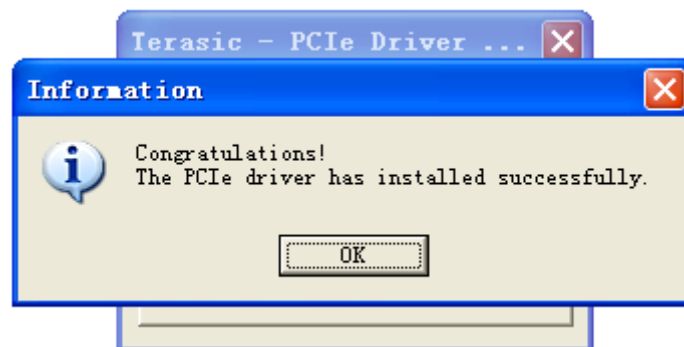

Figure 6-10 PCIe Driver Installed Successfully
4. It takes several seconds to install the driver. When installation is complete, the following dialog window will popup shown in Figure 6-10. Click “OK” and then “Exit” to close the installation program.